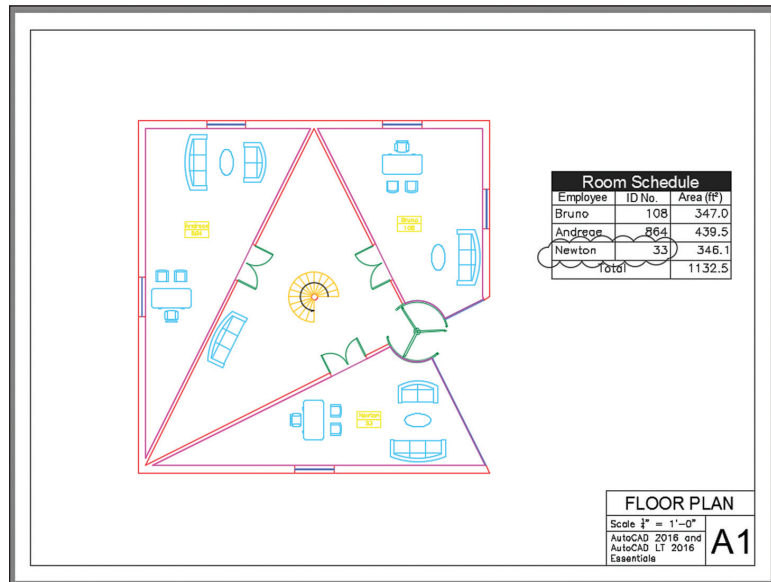

FIGURE 15.35 The final appearance of the drawing
18. Select the Output tab and click the Preview icon on the Plot panel. The gray background in the fields disappears, and you see the table exactly as it would plot (see Figure 15.35). Press Esc to exit preview mode.